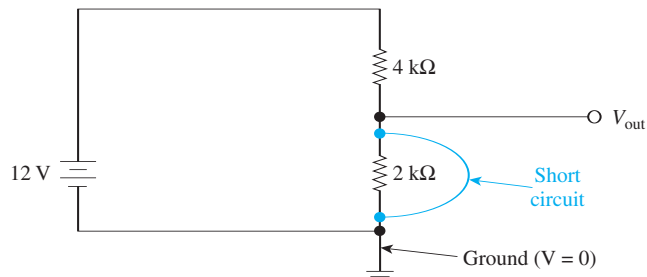

Figure 5 A short circuit across the $2 \text{ k}\Omega$ resistor forces the output to zero V.
A *short circuit* occurs when an electrical conductor is purposely or inadvertently placed across a circuit component. The short causes the current to bypass the shorted component. Calculate V_{out} in Figure 5.
7. The current leaving the battery in Figure 5 _____ (increases, decreases) if the short circuit is removed.